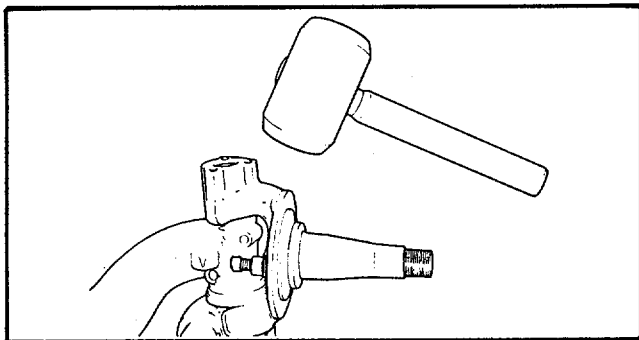

Figure 32
- A. With king pin caps off, turn the knuckle to the straight ahead position. Take a rubber mallet and repeatedly strike the top draft of the knuckle as shown. This will shift all of the components down and remove grease layers so an accurate reading may be taken (Figure 32).